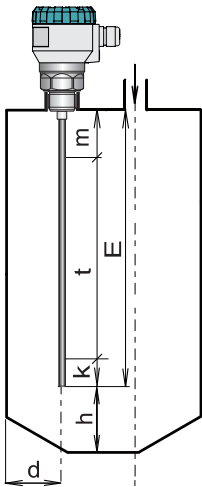

Fig. 1: Level meter installation with the rod electrode
- Otherwise, the level meter install as far as possible from the walls, to the middle between the wall and the vertical inlet, see Fig. 1., 2, 3 and 4.
- It is an area in which continuous level measurement takes place. The maximum measuring range is determined by the length of the measuring electrode with the subtraction of dead zones at the beginning and at the end of the electrode, see Figs. 1, 2, 3, and 4. This range is also the default setting of the level meter. The maximum measuring range can be reduced by the user by changing the minimum and maximum levels in case of obstacles near the end or in particular at the beginning of the measuring electrode.
- In connection with the measurement principle, electromagnetic waves reflected in the area immediately below the level meter and also at the end of the electrode cannot be evaluated (see Figs. 1, 2, 3, and 4). These zones determine either the minimum possible distance between the level meter and the highest level ("m" parameter) or the minimum distance at the end of the electrode ("k" parameter). **The level meter must be installed in such a way that the level does not interfere with the dead zones at the maximum and minimum possible filling of the storage tank.**